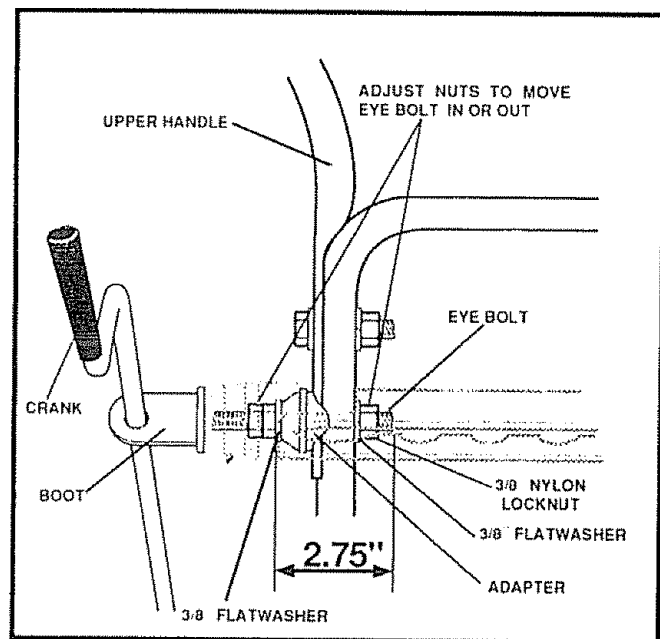

FIG. 4B
- Remove the 3/8" nylon locknut and flatwasher from the eye bolt assembly. Check to make sure the two 3/8" jam nuts are tight. The jam nuts should be 2.75 inches from the end of the eye bolt (Fig 4B)
- Install the chute crank eye bolt through the lower handle hole on the left hand side. Make sure that the left side of the shifter plate is installed over the threaded end of the eye bolt. Install the flatwasher, lockwasher and locknut (See Fig 4B)